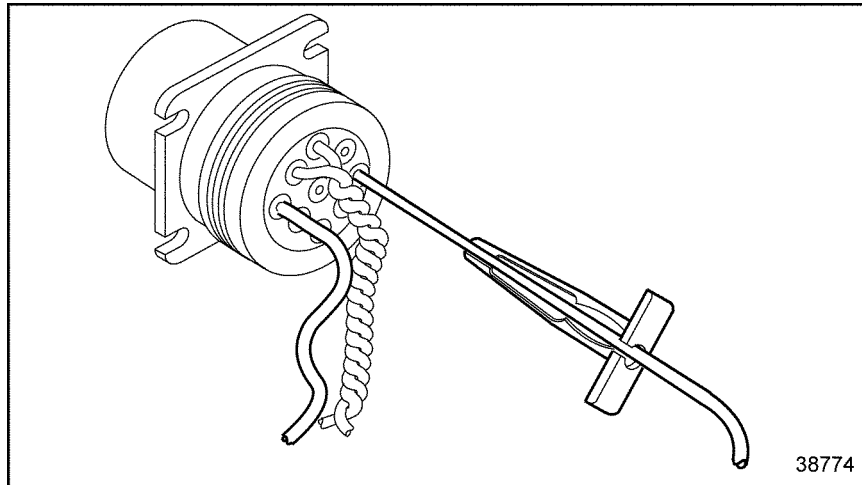

Figure 16-30 Removal Tool Position
1. With the rear insert toward you, snap the appropriate size remover tool over the wire of the terminal to be removed. See Figure 16-30.